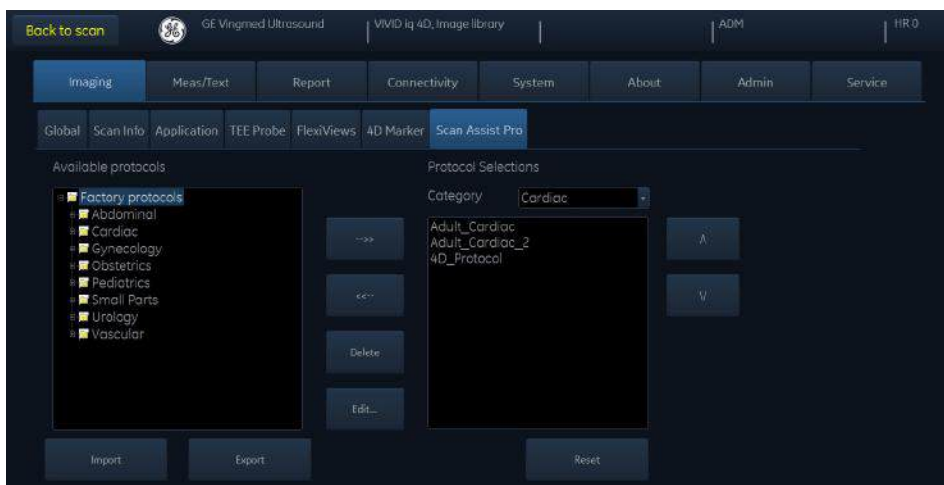

Figure 5-21. The Scan Assist Pro sheet
1. Select the desired **Category** under Protocol Selections on the right-hand side of the *Scan Assist Pro* sheet (Figure 5-21 on page 5-72).